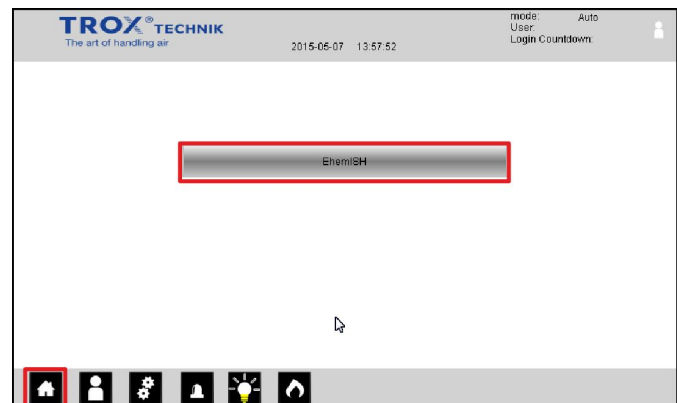

Fig. 19: Opening the system overview (variant 2)
- ▶ Press (Fig. 19) on the starting screen or press the button in the navigation area (Fig. 19).